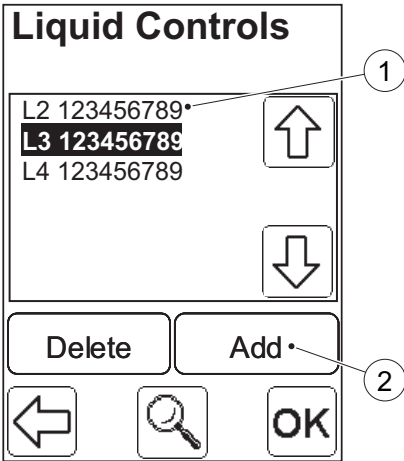

FIGURE 3-6
When the Liquid Controls button is pressed in the Define Lists menu (see *FIGURE 3-5*), the Liquid Controls list (1) is displayed (see *FIGURE 3-6*). The Liquid Controls list can hold up to twelve different Liquid Control specifications.